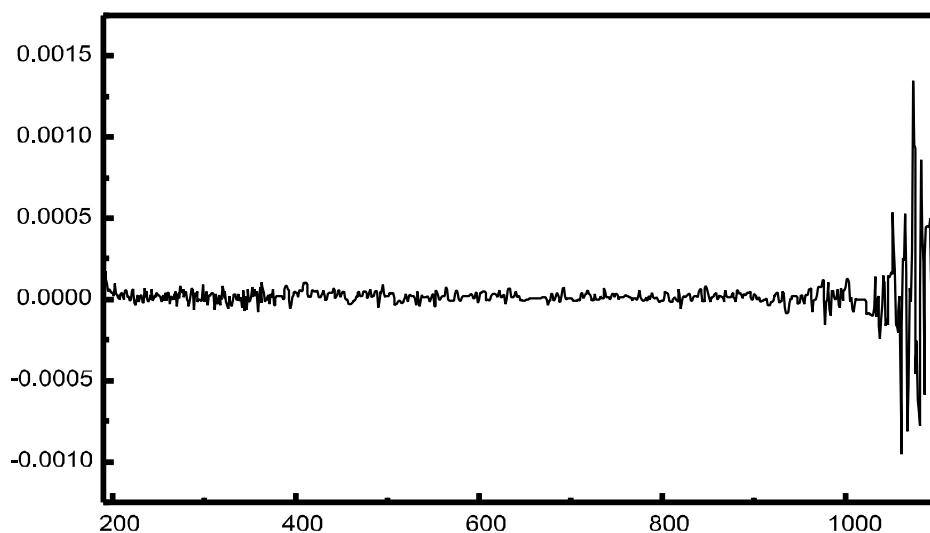
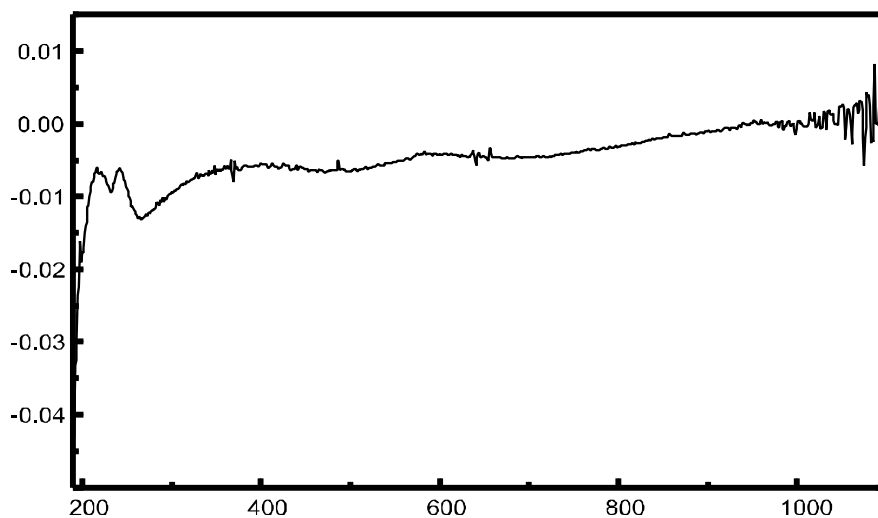

Figure 9 Example of a Blank on Water Showing a Good Baseline
Figure 10 Example of a Blank on Water with Bubbles Causing a Poor Baseline
- ✓ Blank measurement shows a flat baseline (Figure 9 and Figure 10 on page 52 show a good and a poor baseline)
If your blank or spectra shows artifacts similar to the one in Figure 10, see "Solvents" on page 47 to optimize the measurement procedure.